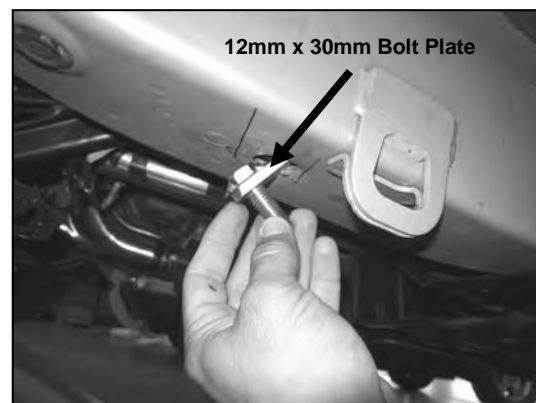

Fig 3
5. Insert (1) 12mm x 30mm Bolt Plate into factory hole in the inner frame rail located by the front tie downs (**Figure 3**).